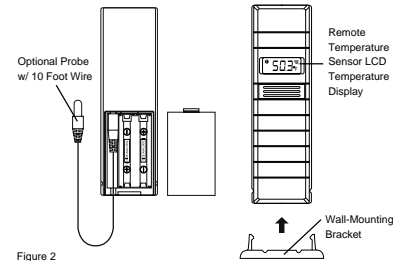

Figure 2
- Remote Temperature Sensor with optional Channel 2 Probe (TX25U, Figure 2).